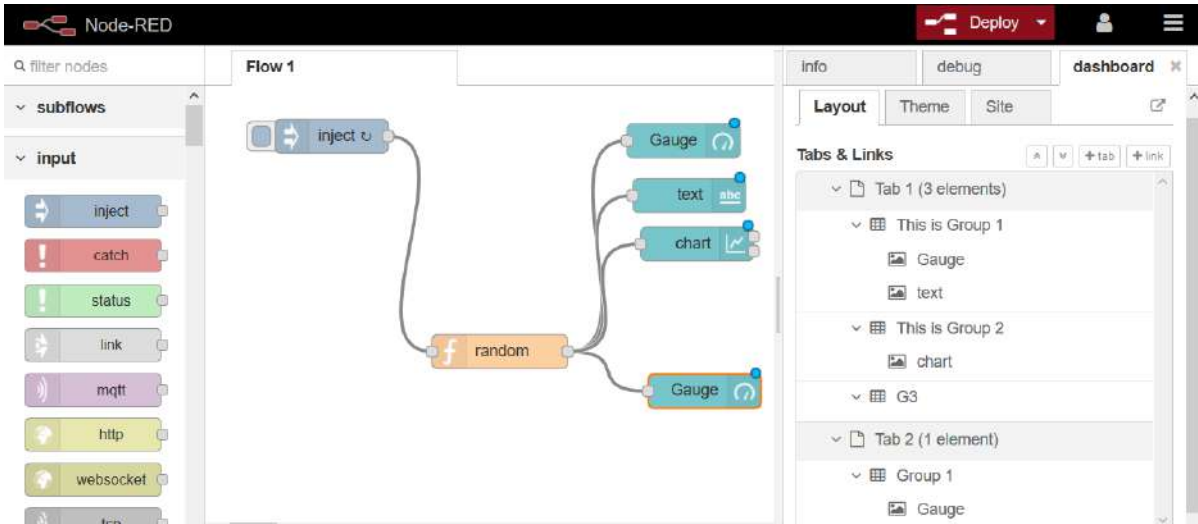

Figure 7.12 Dashboard Groups and tabs Flow example
- LAYOUT sub-tab: defines where the Dashboard objects will be located, in a which dashboard tab and in which group of objects. The meaning of tabs and groups is explained in Figure 7.12 below.
Figure 7.12 shows the same flow designed as example (Figure 7.3), connecting to the “random number” generator function totally 4 different Dashboard output elements. 3 Elements are assigned to Tab 1 (2 items to Group1, 1 item to Group 2) and 1 Element is assigned to Tab 2, Group 1.